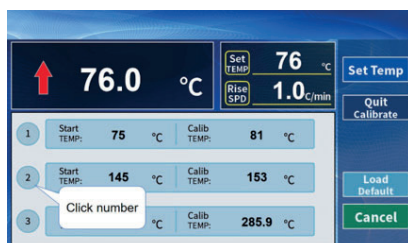

Fig. 5
2) After entering the correction mode, the display screen shows the correction point selection interface (Figure 5). There are three correction points in total.